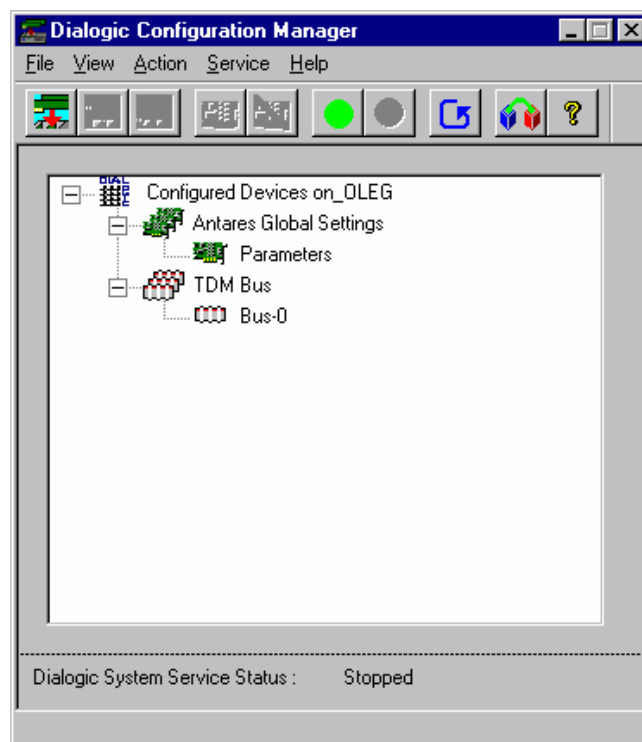

Figure B.12. Dialogic Configuration Manager
2. Start the **Dialogic Configuration Manager**, as shown in **Figure B.12**.